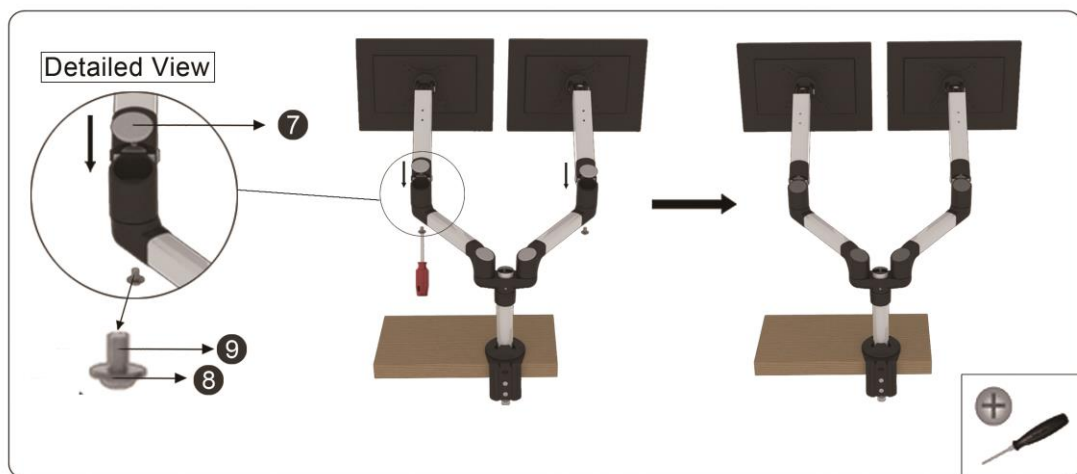

Figure 3-4
- Install the gas spring arms onto the extension arms. Place the arm covers (7) on the pivot points and secure with the M6x12mm Phillips screws (9) and washers (8) (See Figure 3-4). Do not over tighten the screw. The arm cover is used to help secure the extension arm.